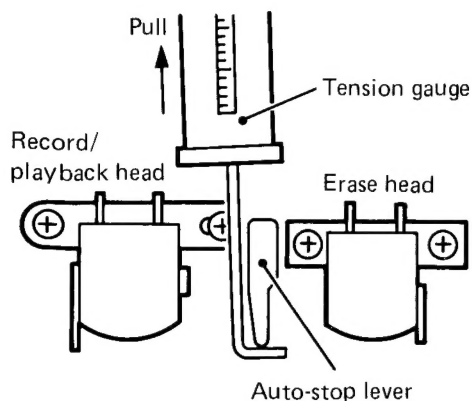

Fig. 16
- 2) Hang a tension gauge on the detection cap tip as shown in Fig. 16, then confirm that when this gauge is slowly pulled, the auto-stop lever operates in the range of 50–70 g.